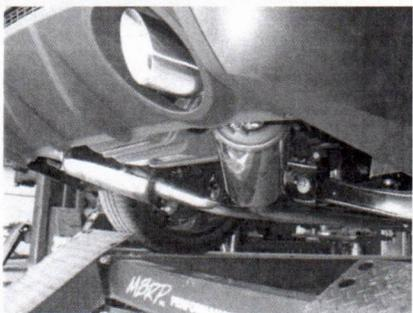

Figure 9
5. Install and adjust the **Exhaust Tips**. Before tightening the system check that the tips are in the center of the fascia openings. Insert a 1" wood or rubber spacer between the **X-Pipe** and the **Cross-Member** before tightening the system. Check to make sure the **X-Pipe** is level. Starting at the front of the exhaust, tighten all clamps and connections. **Refer to Figure 9.**